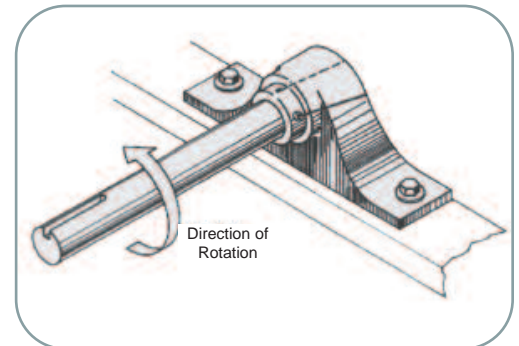

Figure 8 - Locking Collar Assembly
**Each eccentric locking collar should be checked quarterly to ensure that the inner bearing race is secured to the fan shaft.** The locking collar can be set using the following procedure (see Figure 8):